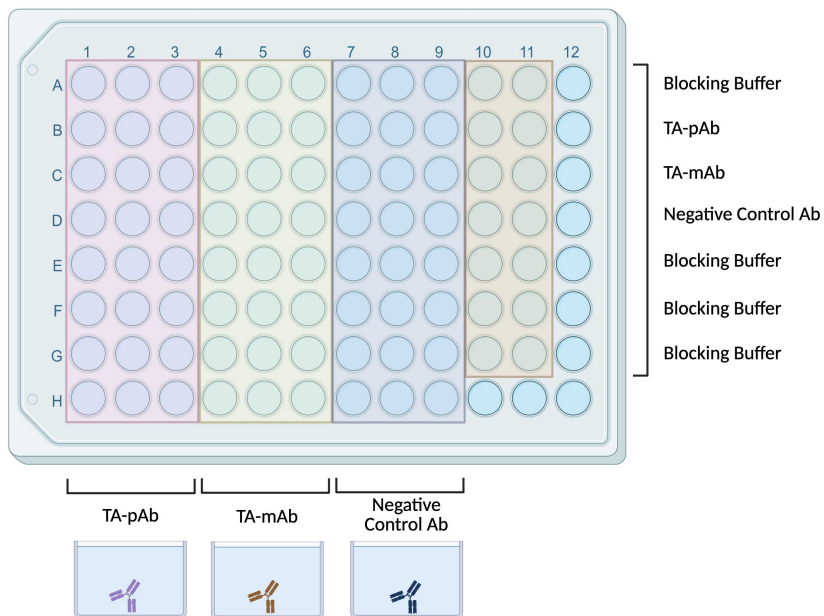

Figure 3: Primary Antibodies Plate Layout
Plate Layout (Figure 3):
7.1 In a **dilution plate**, dispense  200 μL of working stock to row A of designated wells (**Figure 3**). Control wells will also receive the working stock.